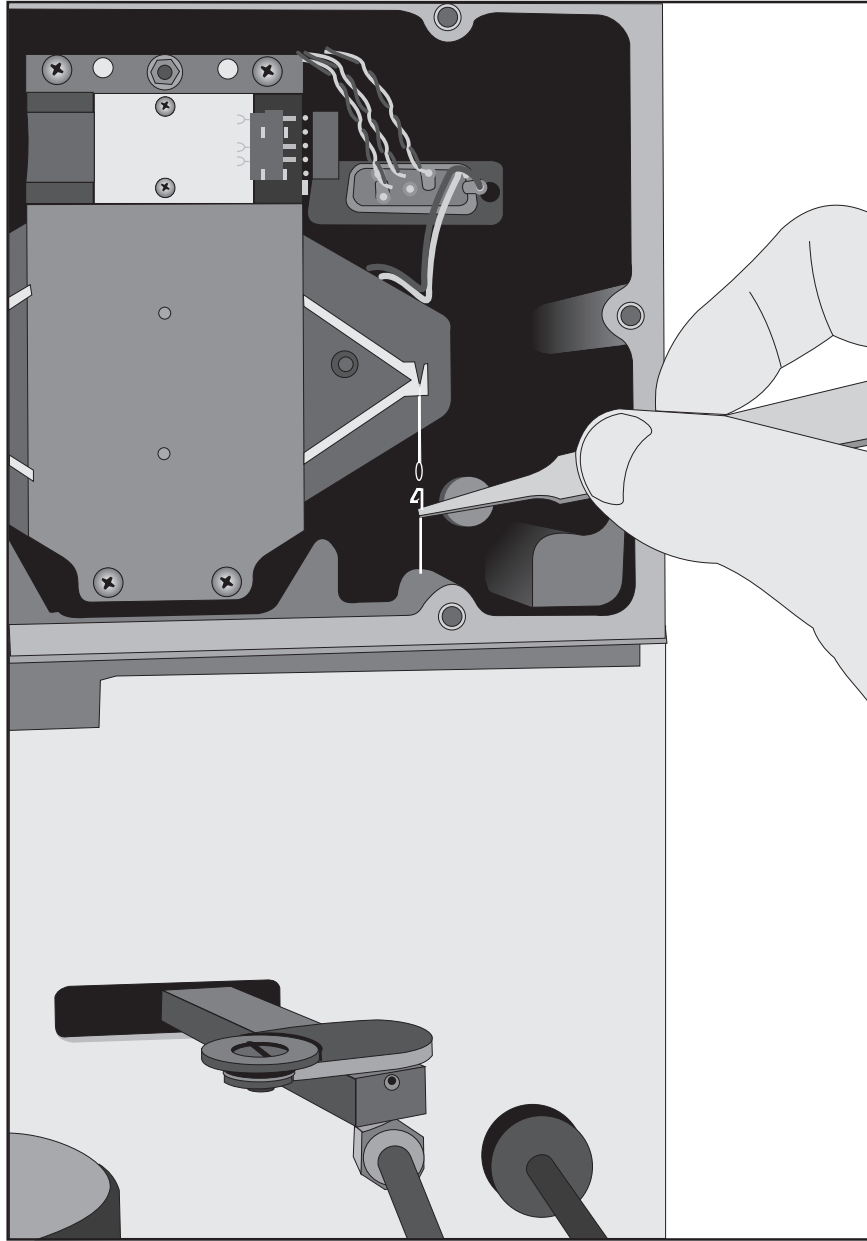

Figure 2.15
6. Thread the hang-down wire up through the hang-down tube into the balance chamber, and hook the top of the wire over the top of the tube (see Figure 2.15 on the next page).